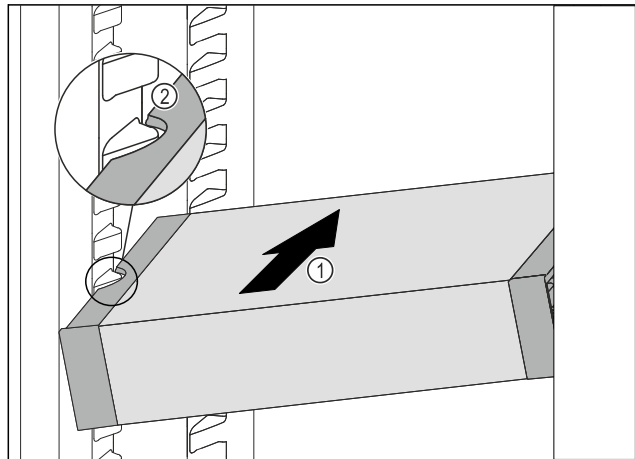

Fig. 123
- ▶ Insert the VarioSafe into the fridge section at an angle Fig. 123 (1) until the recesses in the side Fig. 123 (2) of the VarioSafe are at the level of the support rib in the fridge section.